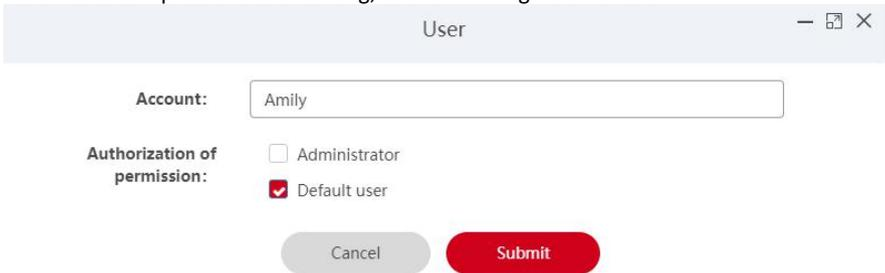

Figure 5-70
Step 2: Click "✎" of the user you want to edit, enter account and permissions, click "Submit" to complete the user editing, as shown in Figure 5-70 below.